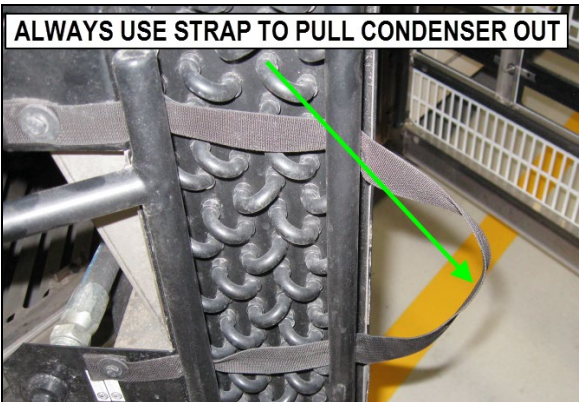

Fig.5
3. Pull the condenser latch and tilt the compressor 90deg out by pulling on the strap located on the side of the condenser (Fig.5 & 6).